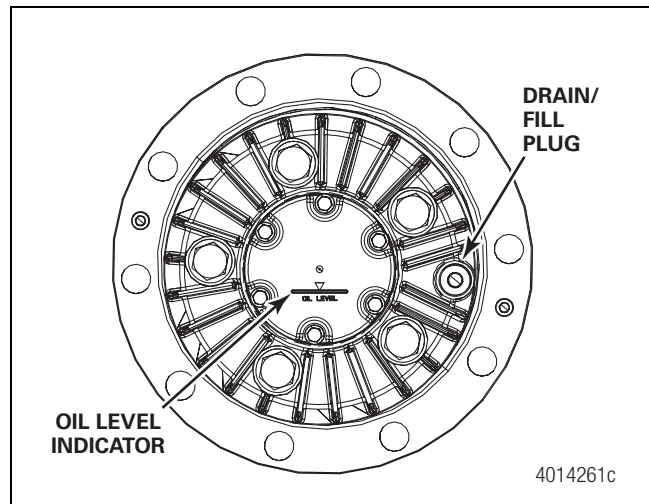

Figure 12.19
8. Align the "Oil Level" line on the cover plate with the drain/fill plug as shown in Figure 12.19. Install the cover plate onto the hub housing immediately to ensure the silicone gasket material compresses evenly between the sealing surfaces.